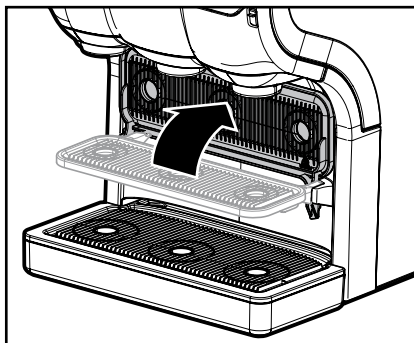

Fig. 11
- Tilt the cup tray upwards to provide enough room for a pot. (Fig. 11)